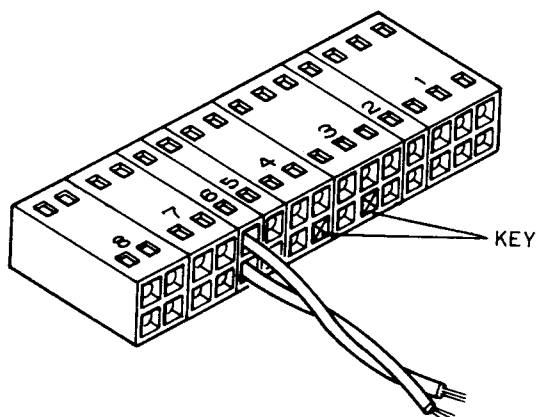

Fig. 4.2.2
2. Remove J3 connector housing 6. (Refer to Fig. 4.2.2)
2. Remove J3 connector housing 7. (Refer to Fig. 4.2.2)
2. Remove housing 4 from the J3 connector. (See Fig. 4.2.2).
2. Remove J3 connector housing 8. (See Fig. 4.2.2)